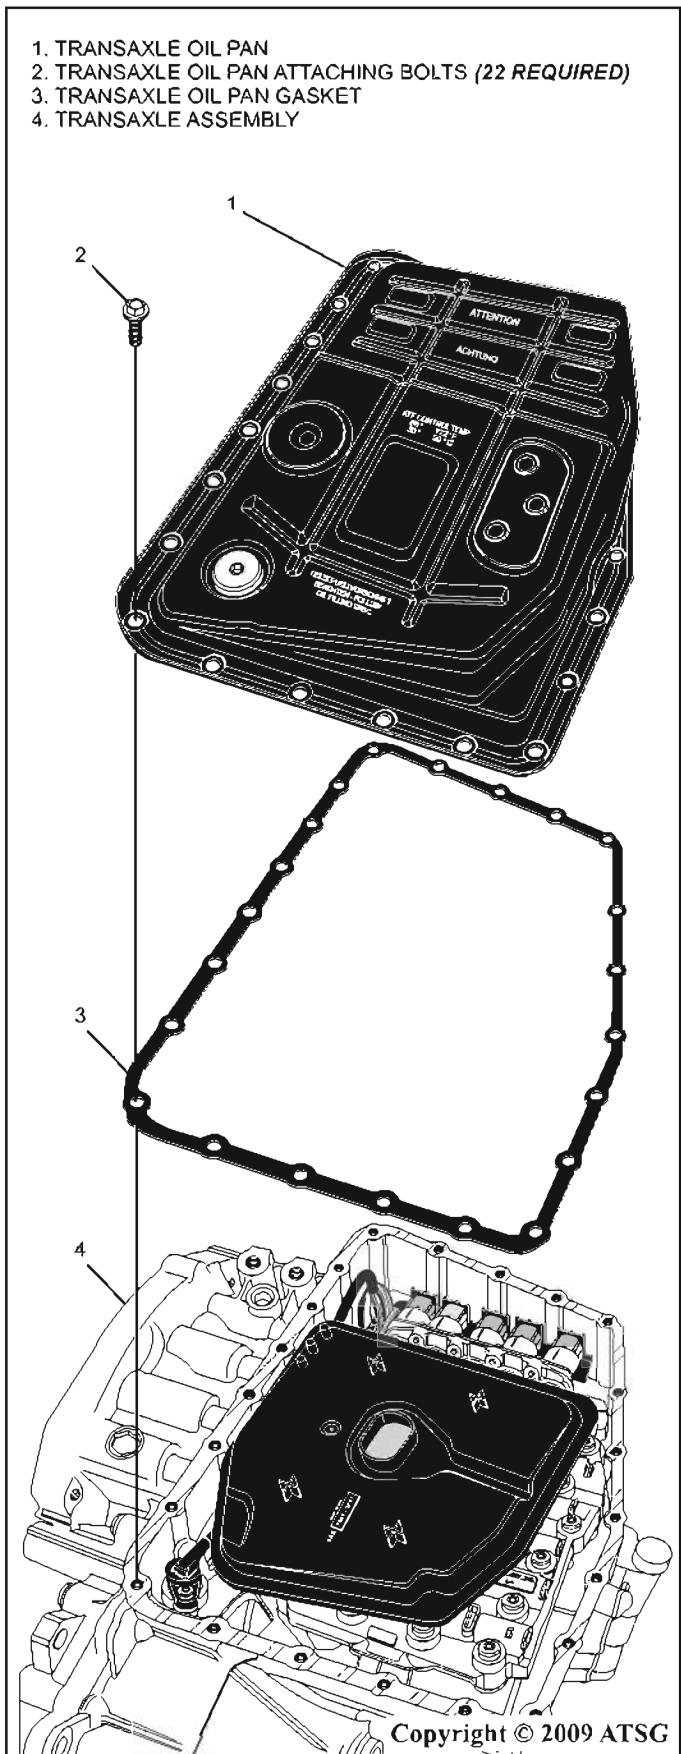

Figure 5
7. Using a 5/16 socket, and suitable air wrench, remove the transaxle oil pan attaching bolts (*22 required*) as shown in figure 5.
8. Remove the transaxle oil pan by lifting straight up as shown in figure 5.
9. Remove the transaxle oil pan gasket and discard as shown in figure 5.